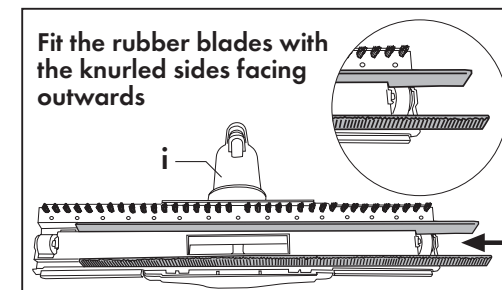

Fig. 7
- Rubber blades are suitable for cleaning hard surfaces and allow for effective steam collection. They should be installed with the knurled sides facing outwards (i). Fig.7